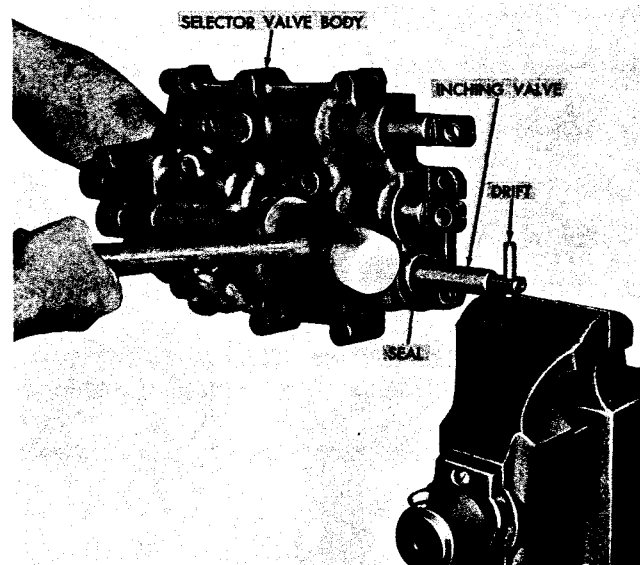

Fig. 6-4. Removing inching control valve
(2) Anchor the inching valve to a drift or bolt held in a vise (fig. 6-4). Support the valve body horizontally and, with a mallet or soft hammer, drive the valve body off the valve. This will remove seal 45, plug 43 with seal ring 44, valve 42 and spring 41. Separate these parts.